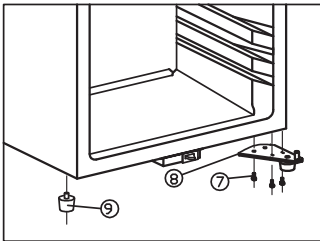

Abb. 5.3
- Remove the long cabinet leg (9) on the left side, and shift it to the right end side. See fig.5.3
- Install the door on the axe of lower hinge (8) the same way it was removed, screw back the top hinge on the left.